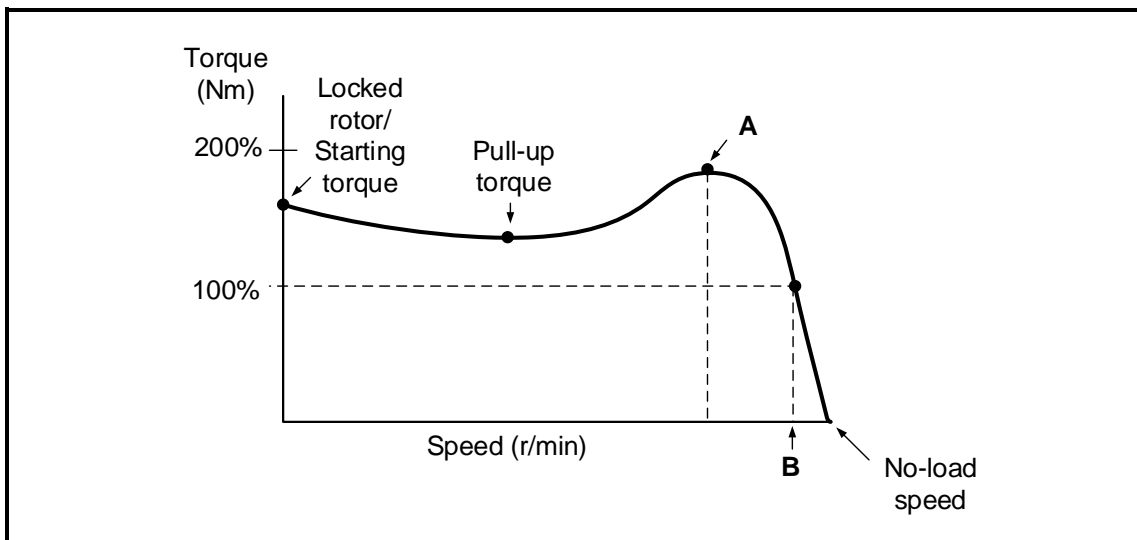

FIGURE 6.4: SPEED VS TORQUE CURVE
- 6.4 FIGURE 6.4 below shows the speed vs torque curve of an induction motor. Answer the questions that follow.
- 6.4.2 State how the speed and torque of the motor in FIGURE 6.4 are affected when increasing the load beyond the full-load value. (2)
- 6.4.3 State when the motor represented in FIGURE 6.4 will stall. (1)